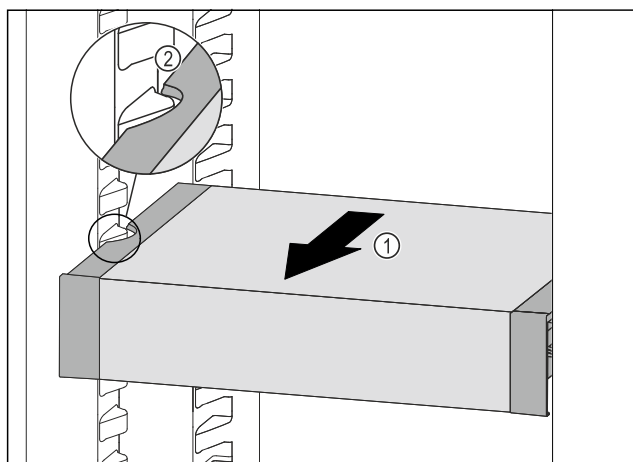

Fig. 104
- Pull VarioSafe forwards Fig. 104 (1) until the recesses in the side of the VarioSafe are at the level of the support rib in the fridge section. Fig. 104 (2)